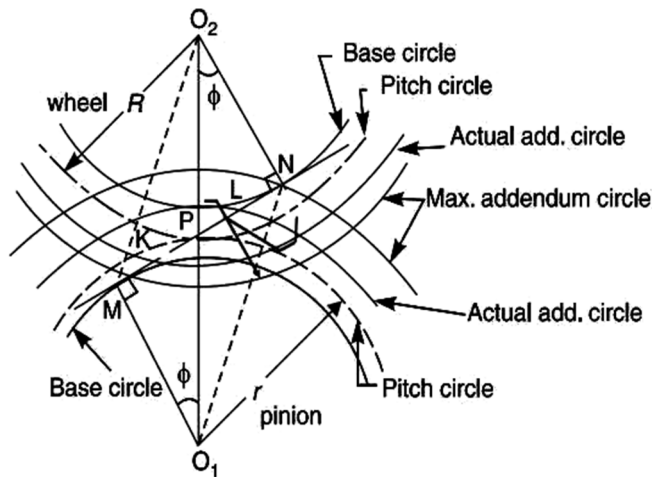

Fig. Q2 (a): Interference in involute gears
- a) In order to avoid interference, the addendum circles for two mating gears must cut the common tangent to the base circles between the points of tangency as shown in **Fig. Q2 (a)**. The limiting condition reaches, when the addendum circles of pinion and wheel pass through points *N* and *M*. Letting *t* = Number of teeth on the pinion, *T* = Number of teeth on the wheel, *r* = Pitch circle radius of pinion = $m \cdot t / 2$, *G* = Gear ratio = $T / t = R / r$ and ϕ = Pressure angle or angle of obliquity and *m* = Module of the teeth.